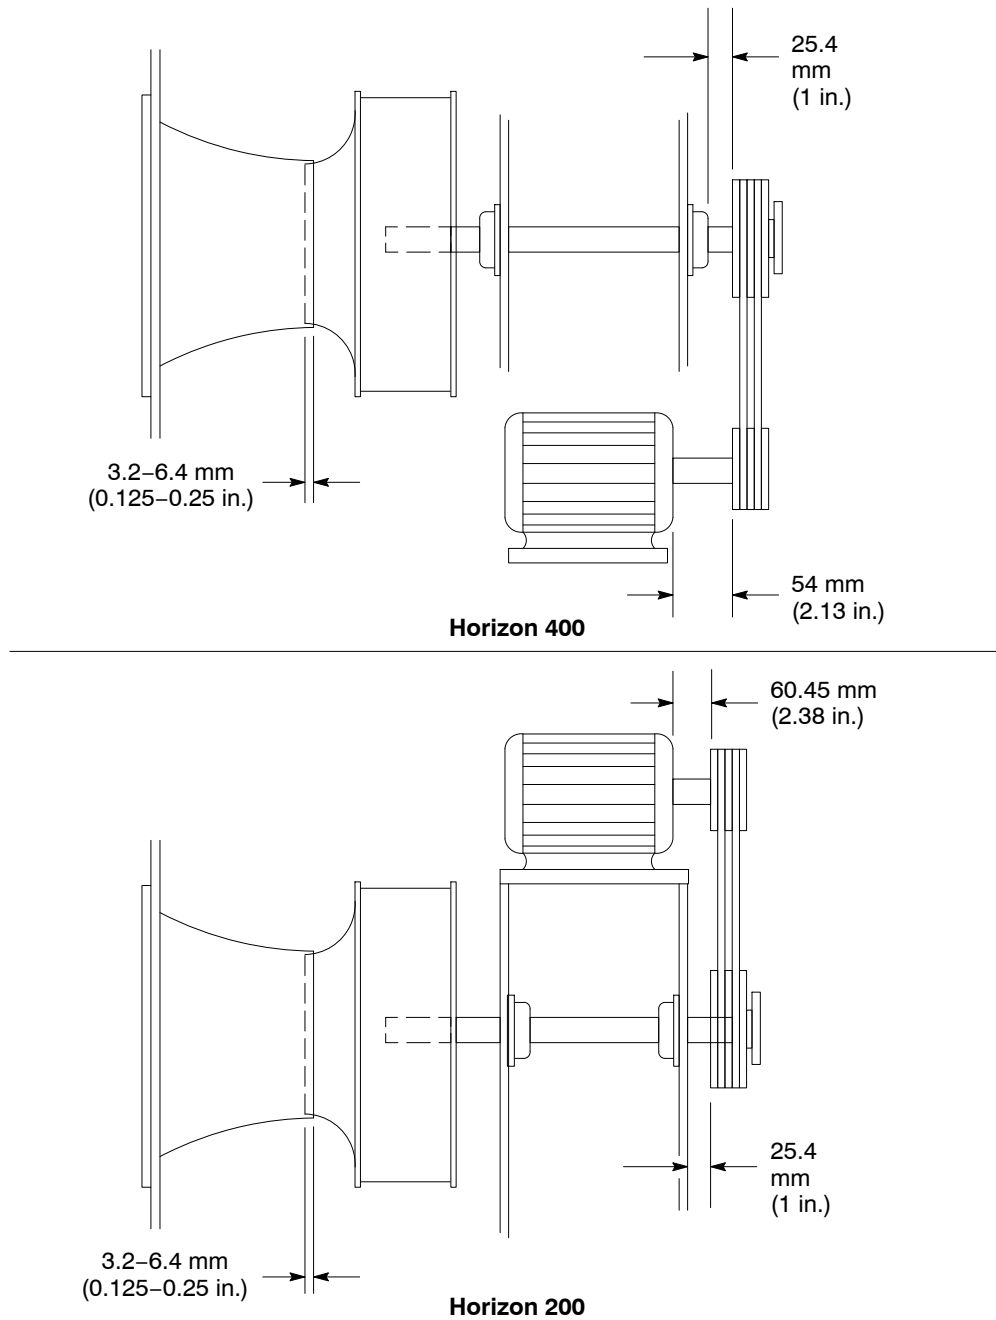

Figure 7-6 Fan Drive Mounting Dimensions
NOTE: Whenever any of the components in the fan drive are replaced, adjust the drive to the dimensions given in Figure 7-6 .
This procedure covers fan and motor sheave replacement. See Figure 7-6 for the Horizon 400 fan drive mounting dimensions.
4. Place a square across the top of the fan and motor sheaves. Slide the sheave and bushing up the shaft until both sheaves are parallel with each other and to the dimensions shown in Figure 7-6. If the sheaves are not parallel, the belts will wear prematurely.
6. Check again to make sure the motor and fan sheaves are parallel with each other and to the dimensions in Figure 7-6. If they are not, separate the bushing and sheave and repeat the installation steps.